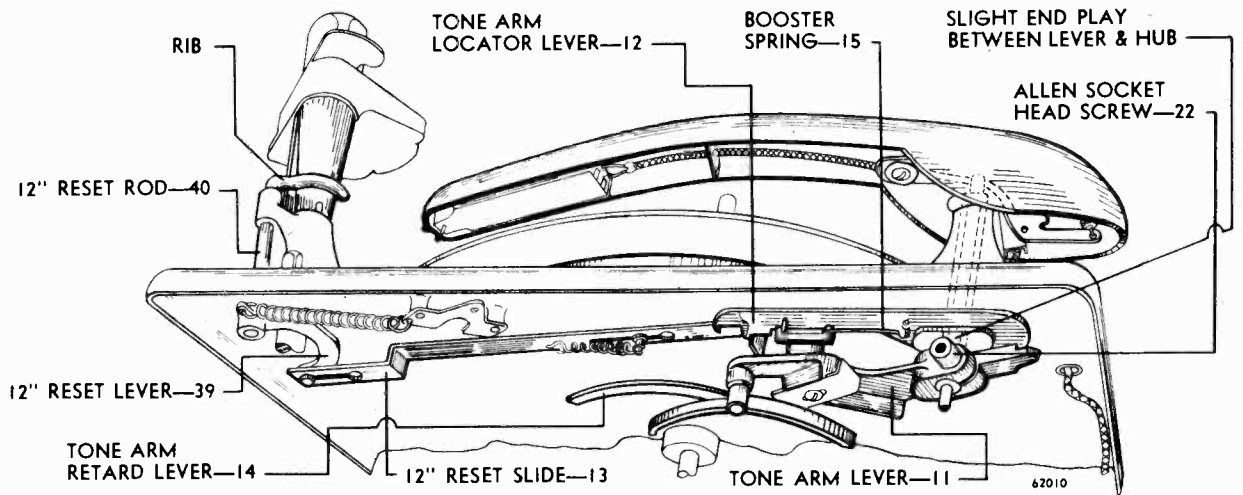

FIGURE 16. BOTTOM VIEW
3. Tone arm retard lever (14) binds. Examine its pivot point for foreign matter between gear casting and shoulder screw. Also, examine retard lever spring (26) for proper action. (See Fig. 16.)
4. Vertical friction. Examine tone arm hinge (34) for binds while moving arm up and down. (See Fig. 16) The shielded wire emerging from back of tone arm should be draped so as to allow free movement of the arm.